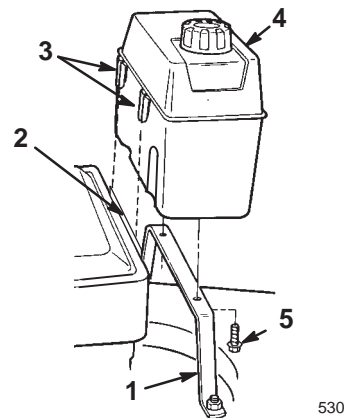

Figure 4
1. Start the two self-tapping screws into the bottom of the fuel tank and then remove the screws (Fig. 4).
2. Hook the plastic clips on the front of the fuel tank onto the fuel tank bracket (Fig. 4).
3. Secure the fuel tank to the tank base with the two self-tapping screws (Fig. 4). **Do not overtighten the screws.**